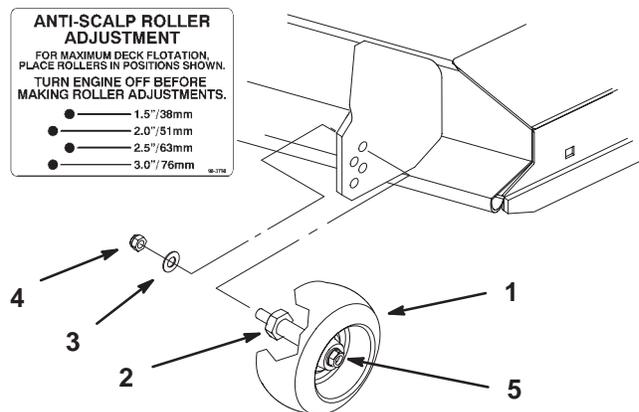

Figure 12
2. After adjusting height-of-cut remove flange nut and spring disk while holding stud with wrench (Fig. 12).
Note: Do not remove the wheel nut and washer (Fig. 12).
3. Select hole so gage wheel is positioned to the nearest corresponding height-of-cut desired (Fig. 12).
4. Reinstall the flange nut and spring disk. Torque to 40–45 ft–lbs. (54.2–61.0 N•m) (Fig. 12).